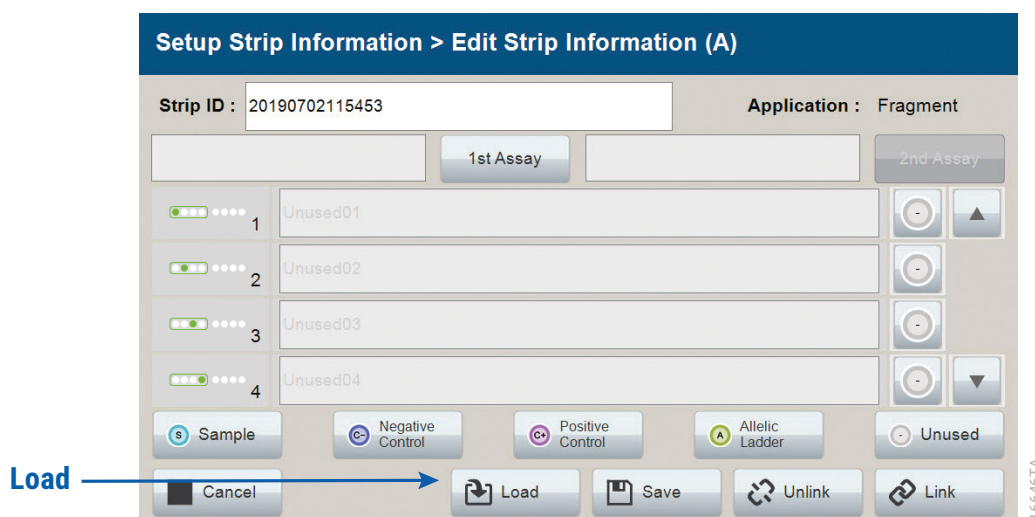
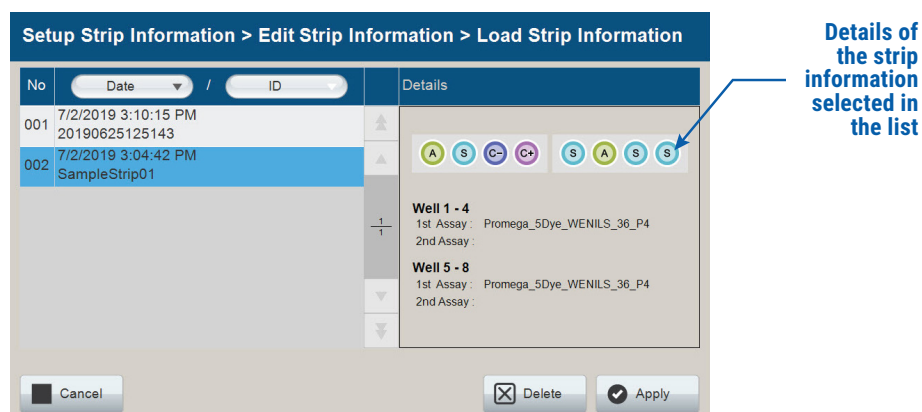

Figure 73. 'Edit Strip Information' screen: Loading a previously saved Strip ID.
Figure 74. 'Load Strip Information' screen.
The Spectrum Compact Control Software allows reuse of individual strip information saved previously (see Step 8 of Section 5.3.1) to assign to a specific lane (A, B, C or D) on the 'Edit Strip Information' screen (Figure 73).
1. After selecting the desired lane (A, B, C or D) on the 'Setup Strip Information' screen (Figure 59), select **Load** at the bottom of the 'Edit Strip Information' screen (Figure 73) to open the 'Load Strip Information' screen (Figure 74).
- c. It is also possible to use the 'Load Strip Information' screen (Figure 74) to delete strips that are no longer required. Select the strip to be deleted from the list on the left side of the window, and then select **Delete**. A warning window asking "Are you sure you want to delete the strip?" will appear. Selecting **Yes** deletes the strip and takes you back to the 'Load Strip Information' screen. Selecting **No** closes the window and takes you back to the 'Load Strip Information' screen without deleting the strip.